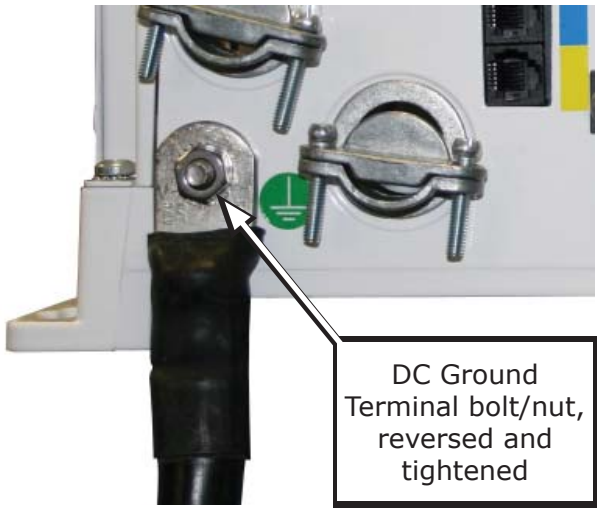

Figure 2-17, Large Ground Wire Connected to MS-E Series
- 4. Reverse the removed bolt, and place it back in the chassis hole to attach a correctly sized ground cable to the MS-E Series chassis, as shown in Figure 2-17.